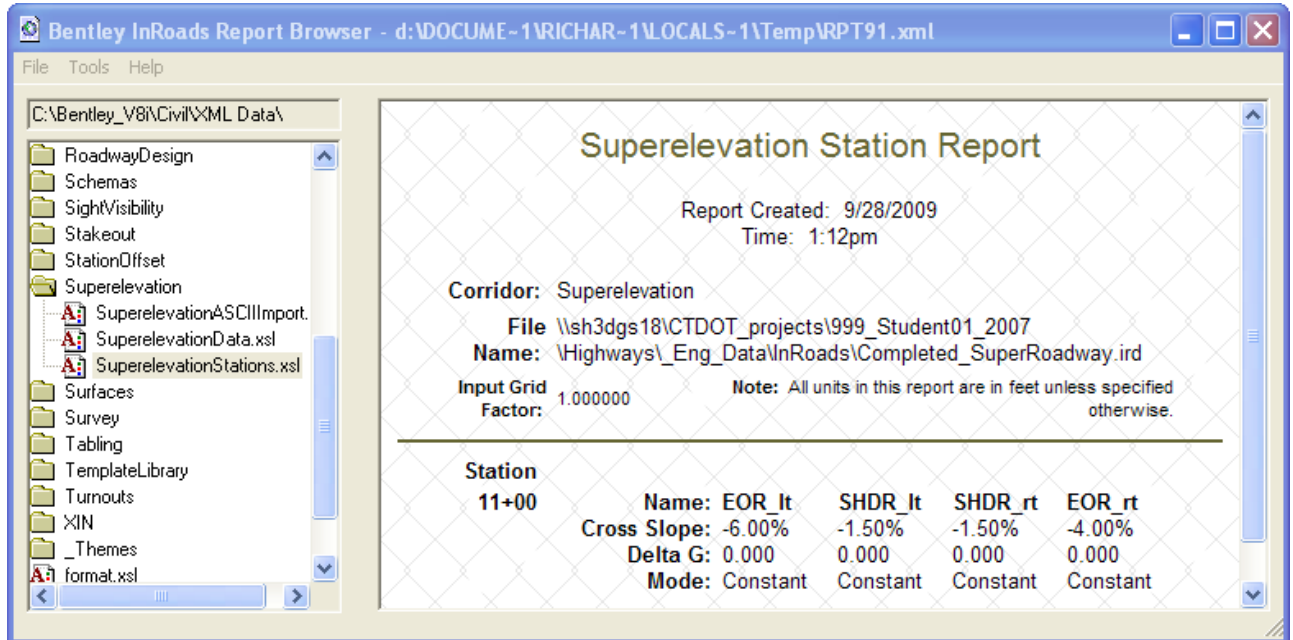

Figure 8-4 InRoads Report Browser Superelevation Report
- B. A report will appear. Review the output data in **SuperelevationData.xml** and **SuperelevationStations.xml**. The report browser shown in Figure 8-4 shows the Superelevation Station Report.